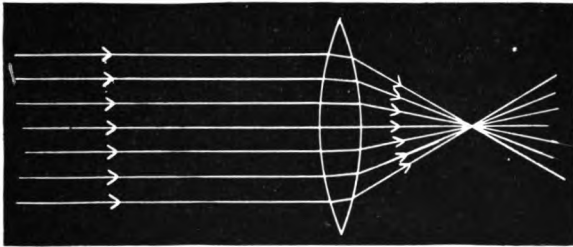

FIG. 89a.—CONVEX LENS
*axis*. Other axes are called *secondary*. In case there are two curved surfaces, the principal axis passes through the center of the other curve. In this case there are two principal foci, each about one-half way between the center of curvature and the optical center. Rays parallel to the principal axis, when passing through the lens, are refracted, converge and pass through the principal focus on the other side (Fig. 89a). In the case of a concave lens such rays are refracted, diverge, and seem to come from the principal focus on the side from which they